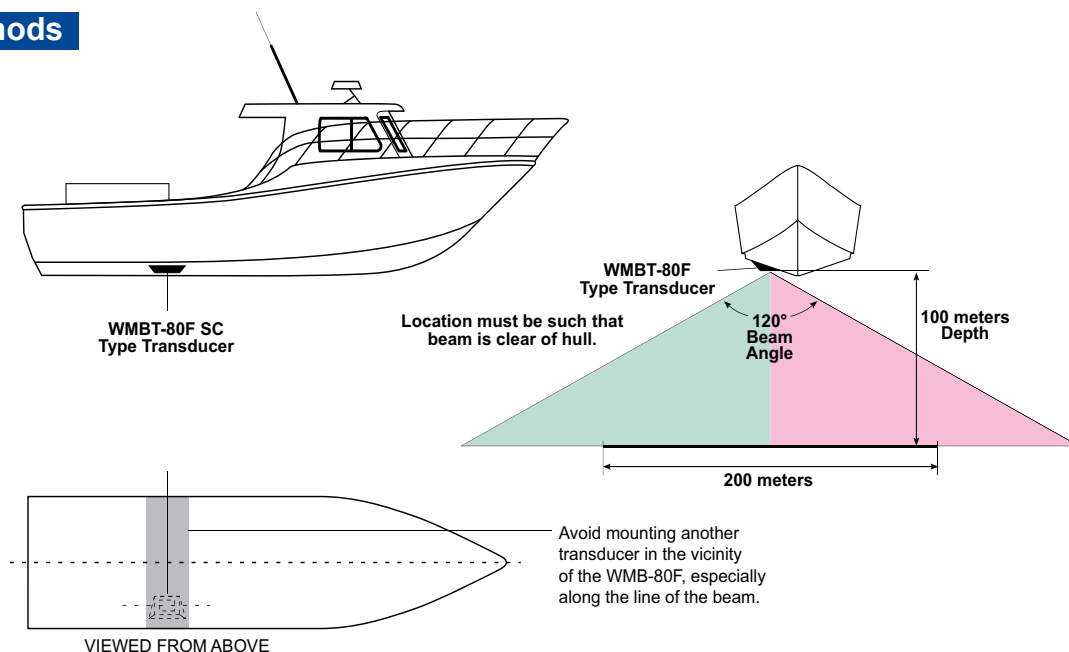

Figure 3 – Through-hull Compact Type Transducer Mounting
- When mounting the transducer, ensure it is accurately running parallel to the keel in a bow-stern direction. See Figure 3.